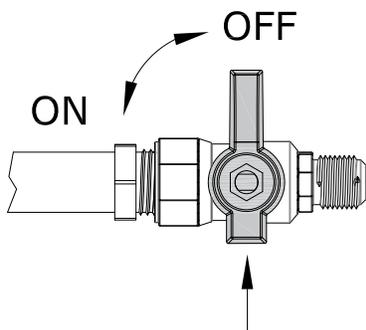

Figure 4.9 - Turn Off Gas
1. Disconnect the electrical power of the fireplace. Locate the main shut-off valve upstream of the appliance connector and close the valve. Figure 4.9.